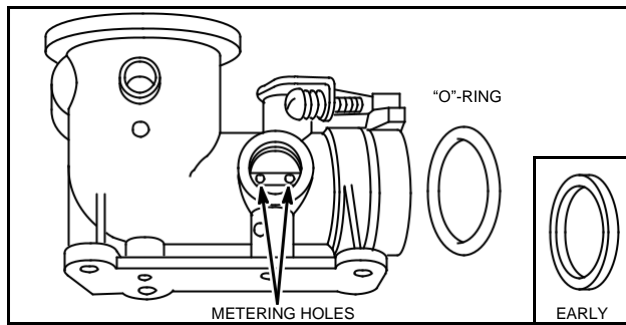

Fig. 226 - METERING HOLES AND "O"-RING, TYPICAL
1. Remove and discard "O"-ring, Fig. 226.
4. DO NOT ALTER SIZE OF HOLES, Fig. 226.